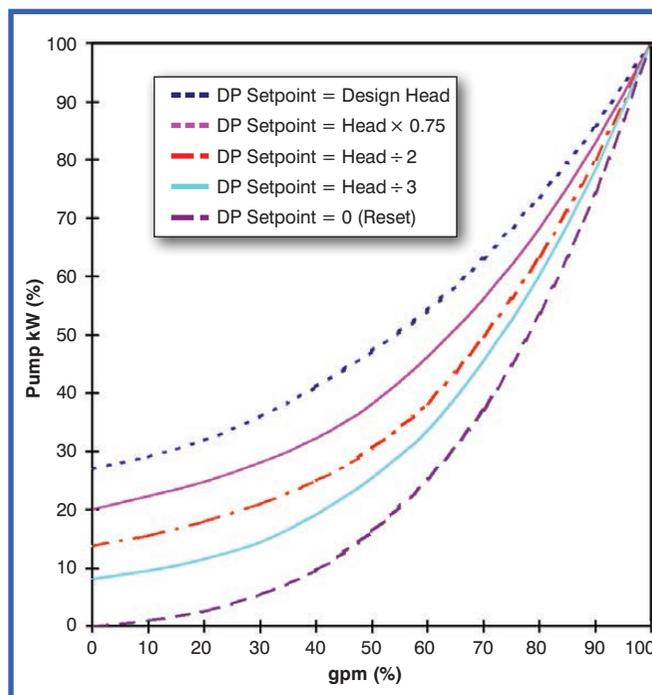

Figure 2: Variable speed performance at varying DP setpoint.
Chilled water pump speed is typically controlled to maintain supply-to-return differential pressure (DP) at setpoint. Standard 90.1⁵ requires that the DP sensor(s) be located at the most remote coil(s). This is because the lower the DP setpoint, the lower the pump energy, as shown in *Figure 2*.^{*} If the DP setpoint is reset by valve position, as discussed further below, pump energy can be close to the ideal curve in *Figure 2* for “DP setpoint = 0.”
In practice, this logic seldom results in much reset of the DP setpoint—the CHWST reset is aggressive enough to starve the coils first—so it is important to locate the DP sensor(s) at the most remote coil(s) so that DP_{max} can be as low as possible to minimize pump energy (Figure 2).